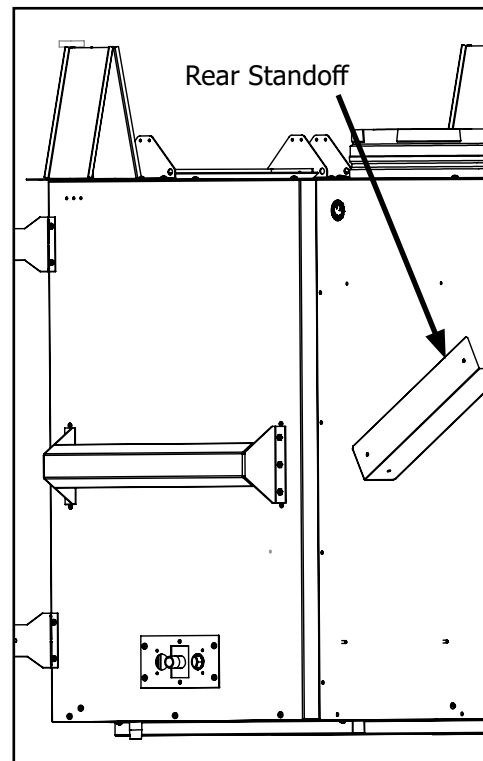

Figure 15: Rear Standoffs
- Install the rear standoffs as shown in figure 15 with T-20 screws.